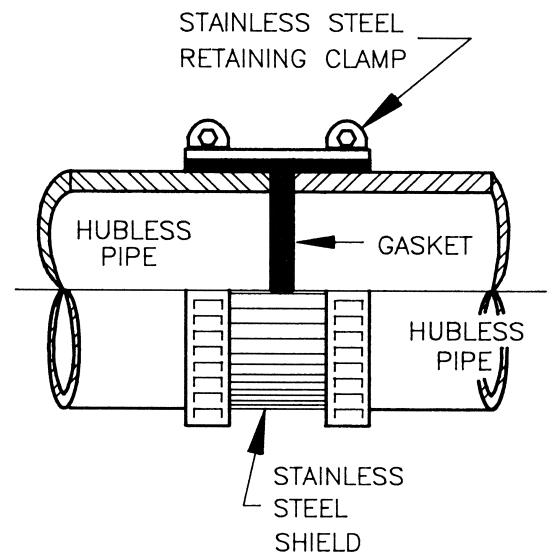

Figure 2-11. Hubless pipe coupling.
**Hubless cast iron pipe** uses pipe and fittings manufactured without a hub. The method of joining these pipe and fittings uses a hubless coupling that slips over the plain ends of the pipe and fittings and is tightened to seal the ends. Hubless cast iron pipe is made in only one wall thickness and ranges in diameter from 1½" to 10". Figure 2-11 depicts the hubless cast iron pipe joint.